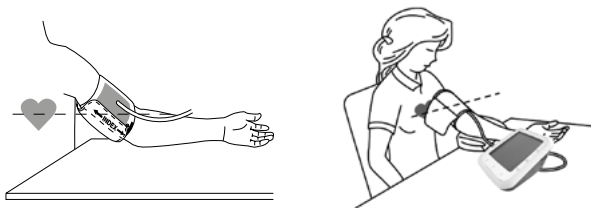

Fig. 6
- If the arm artery lies considerably lower (or higher) than the heart, an erroneously higher (or lower) blood-pressure will be measured (Fig. 6)!